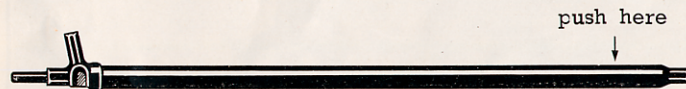
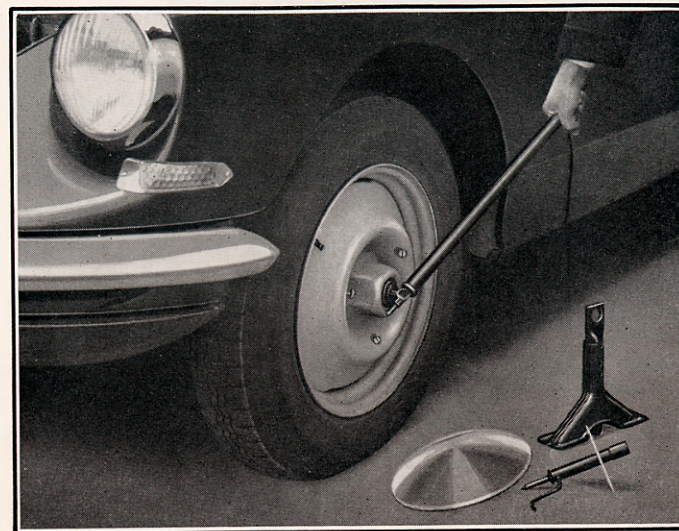

Figure 11
Figure 12
N. B. — If you have to crank the engine, do not forget to use the extension lever (fig. 11).
However, the car can be raised to the maximum ground clearance (control **1** pulled up completely as shown in figure 11) to drive it over short stretches of very bad road, but great care in driving must be exercised.
This lever (fig. 11) is placed on the spare wheel carrying member. Proceed as shown in figure 12. At this stage the nut simply has to be loosened, not unscrewed.
- Finish unscrewing the lug nut using the large lever (3, fig. 11).